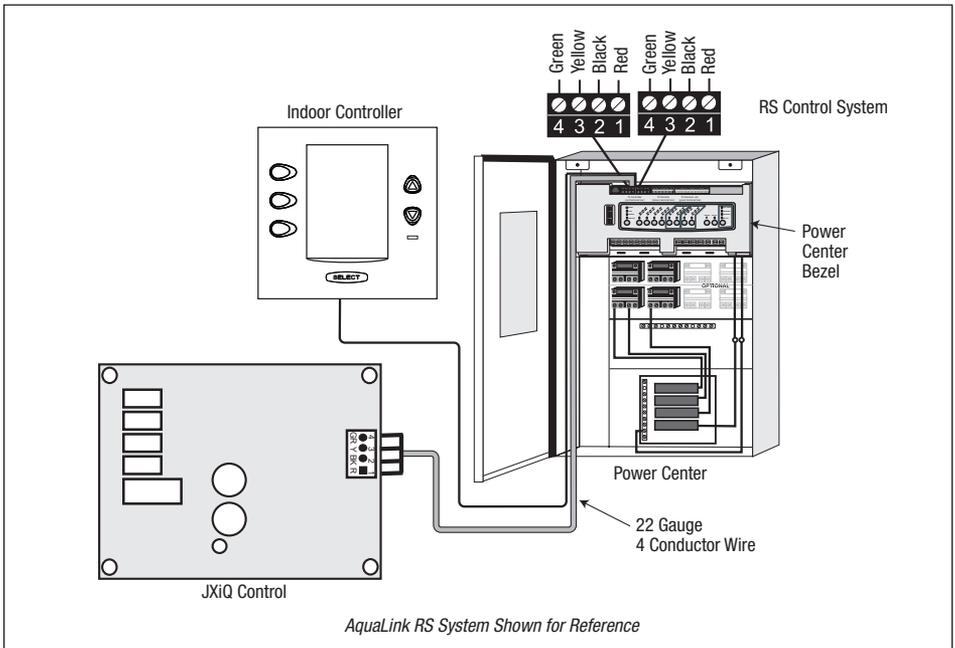

Figure 22. Wiring the JXiQ to a Jandy Remote
- Use 22 gauge 4-conductor wire to run between the heater and the control system and match the wire color order. See *Figure 22*.